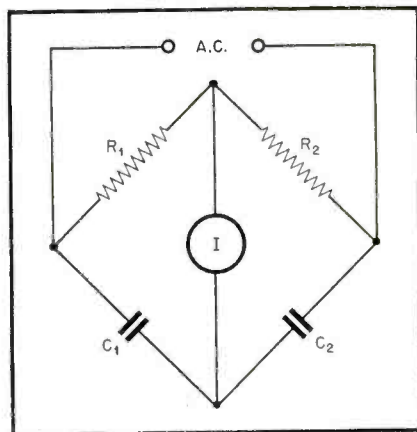

Fig. 1. Basic a-c bridge circuit.
The basic circuit of the a-c bridge is illustrated in *Fig. 1*. As in the ordinary Wheatstone bridge, there are two paths for the flow of current. These are (1) through  $R_1$  and  $R_2$ , and (2) through  $C_1$  and  $C_2$ . The bridge is